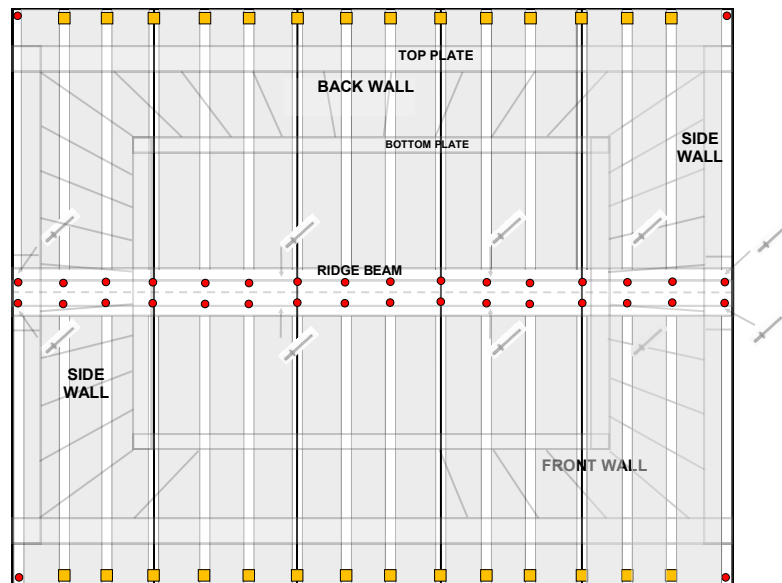

fig.2
Use the 50mm Clouts only on ribs covered by flashings, shown on pg 13 fig.2. Pre-drill holes using a 3.5mm drill bit. Use Roofing Screws on all other ribs. Ensure screws are not overtightened as this can damage the seals and cause the shed to leak.
- Secure with 2 x 75mm screws through the top of the Jack Studs into the Timber Top Plate (fig. 2).
- Rivet the 2 Ridge Caps together using 4 rivets, so total flashing is 2.550m long. Rivet the Ridge Flashing to the centre of the roof using 8 x rivets as shown (fig.2).